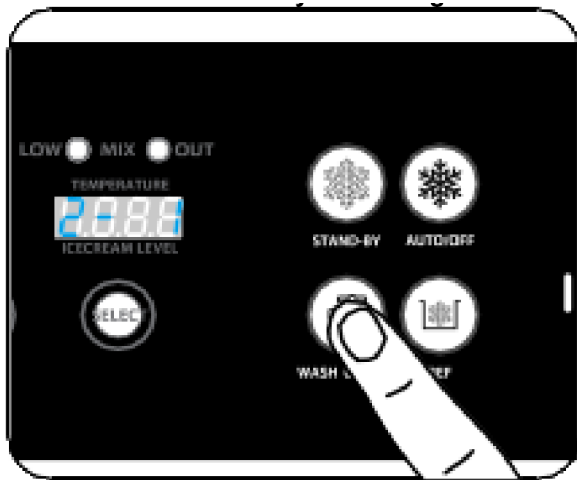

Figure 5-14
7. Press the WASH button (Figure 5-14.) to allow water